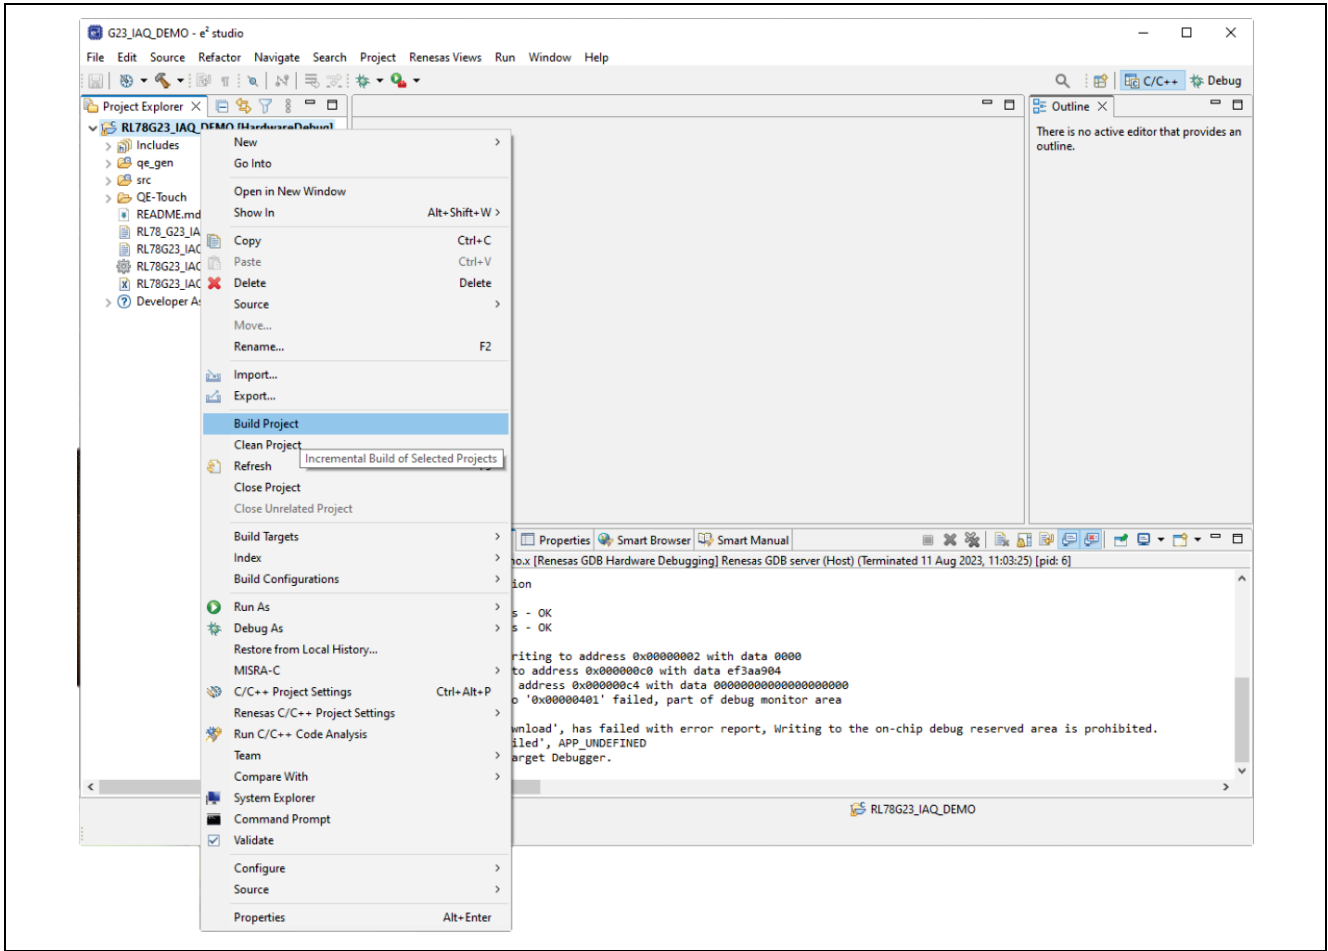

Figure 7. Build Method 1
- **[Right-click]** the project in the project explorer and select **[Build Project]** (Figure 7)